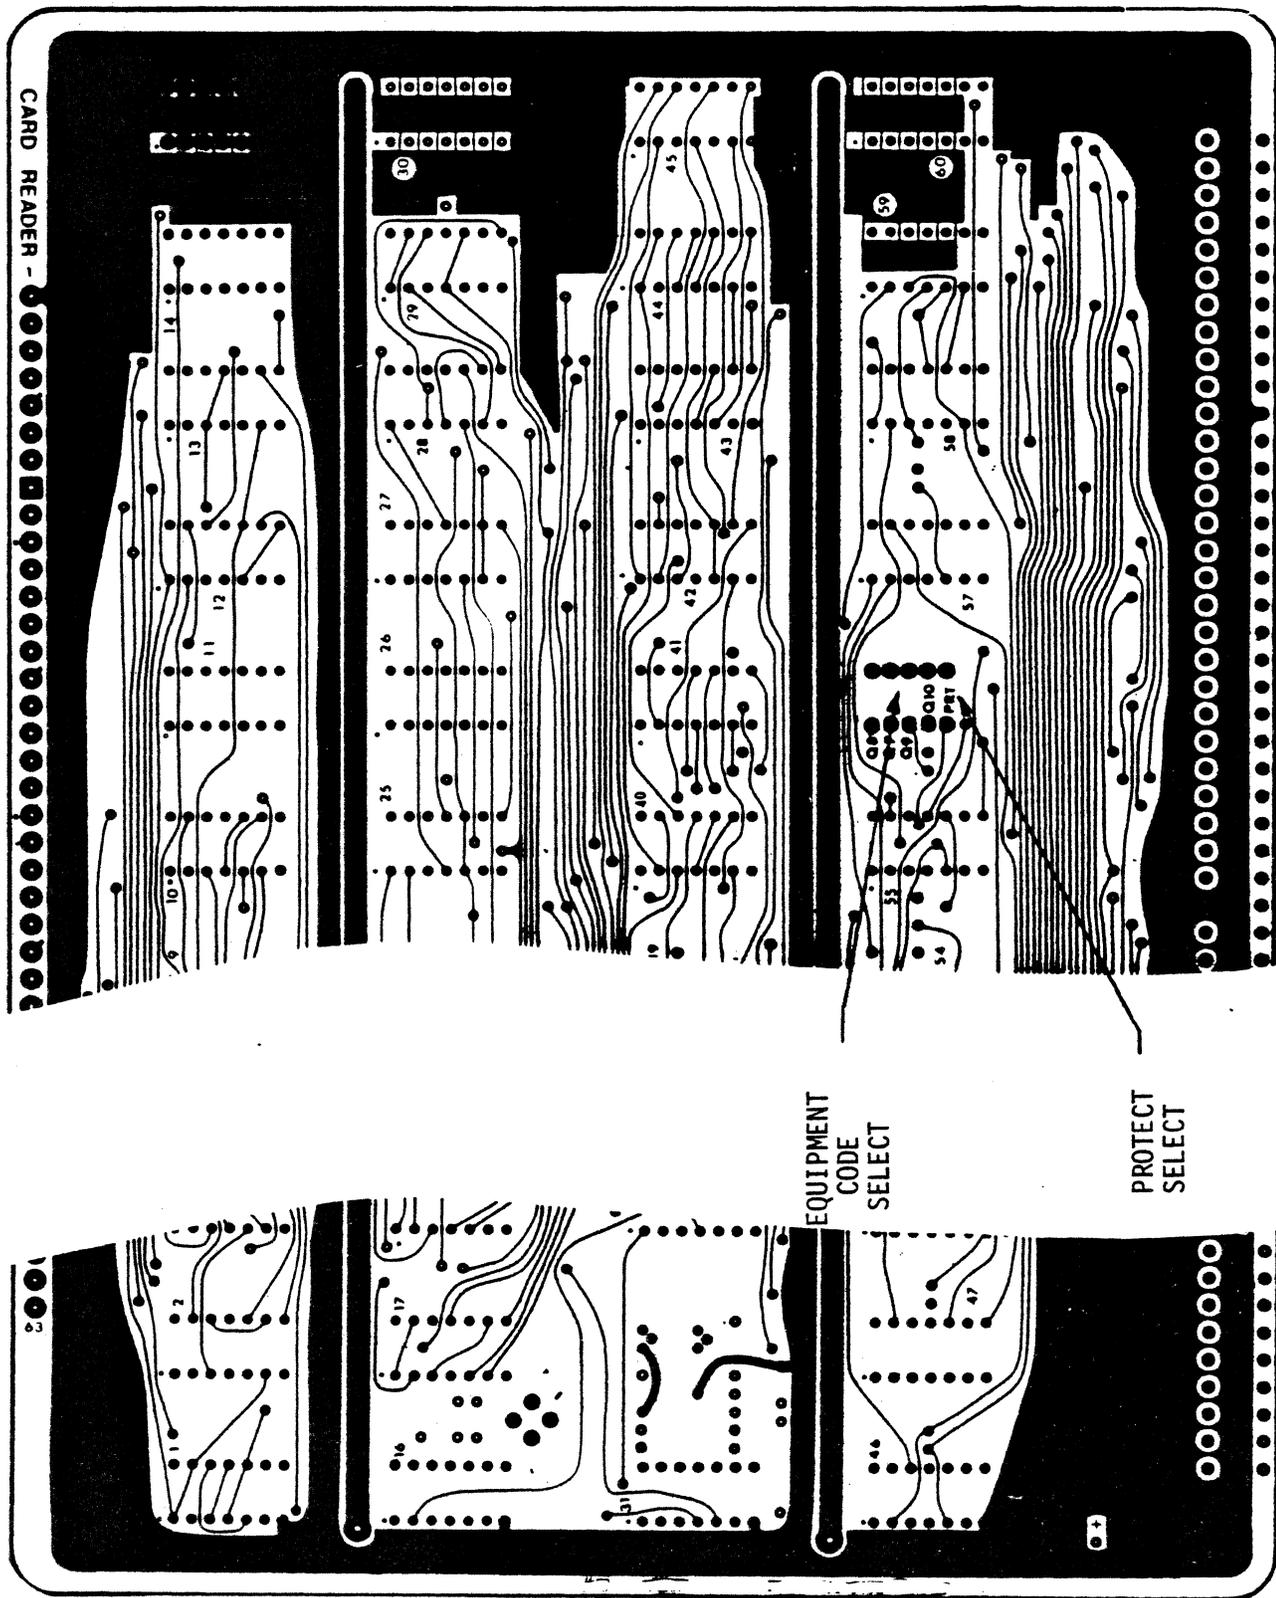

Figure 3-1. Jumper Plug Location on PWB
3. Place the Equipment Code jumper plugs and Protect jumper plug in the proper positions on the PWB. Refer to Tables 3-1 and 3-2 and Figure 3-1. Note that the Controller is protected when the Protect jumper plug is absent.